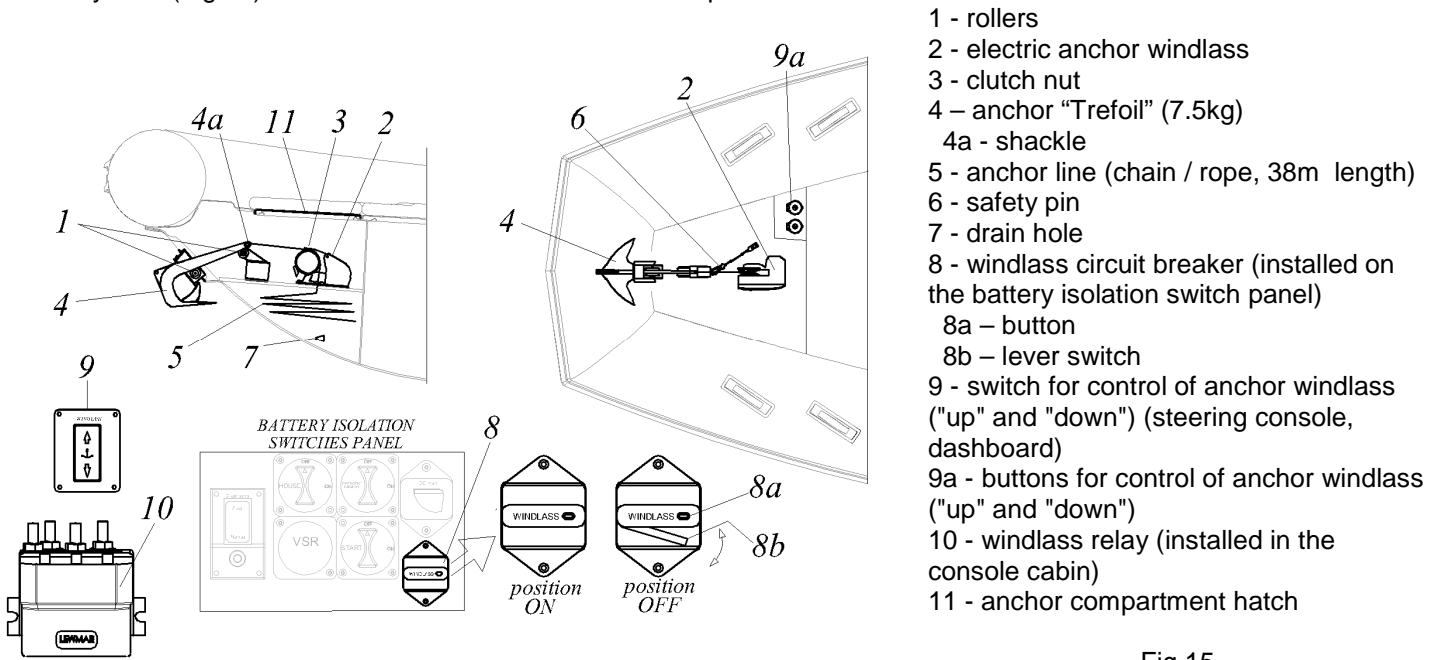

Fig.15
Anchor system (Fig.15) is located inside the bow anchor compartment.
3. *In order not to lose the anchor, periodically check the correct tightening of the anchor shackle (4a)(Fig. 15).*
5. *Periodically clean out the drain opening (7) from dirt.*